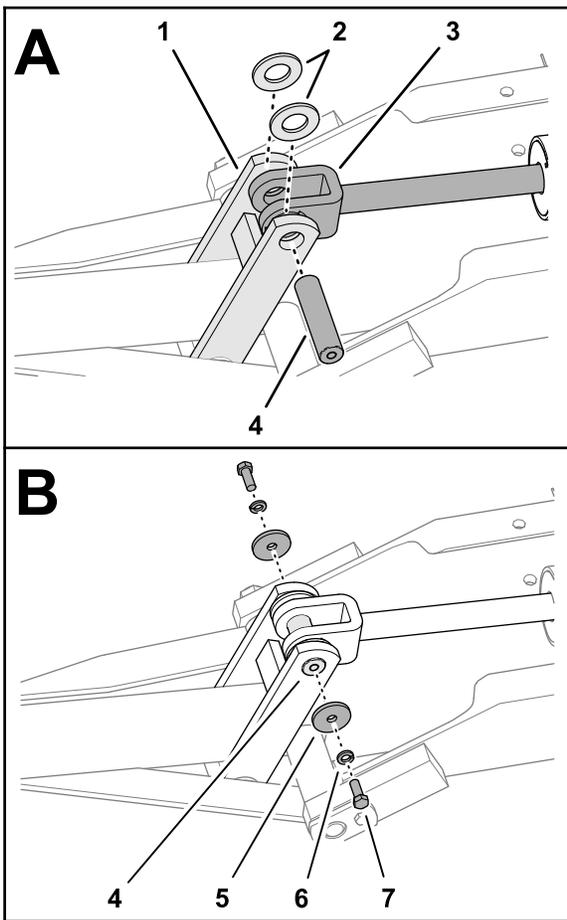

Figure 14
1. Align the holes in the link, washers (1-1/8 x 2 inches), and the fitting of the lift-cylinder rod (Figure 14).
- Assemble the shaft—25 x 102 mm (1 x 4 inches) through the holes in the link washers, cylinder-rod fitting (Figure 14).
- Secure the shaft to the link with (Figure 14) 2 capscrews (3/8 x 1 inch), 2 lock washers (3/8 inch), and 2 washers (3/8 x 1-5/8 inches).